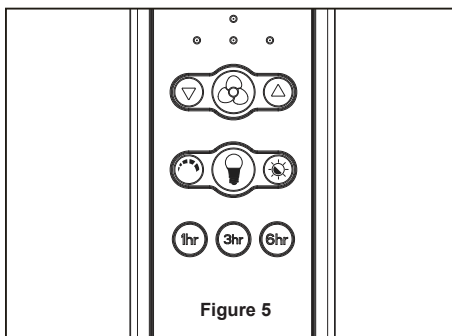

Figure 5
4. After connections have been made, the wires should be spread apart with the grounded conductor and the equipment-grounding conductor on one side of the outlet box and the ungrounded conductor on the other side of the outlet box, then turn leads upward and carefully push leads into the outlet box, with the white and green leads to one side of the box and the black leads to the other side. (Figure 5)
- ☐ 5. Assemble the LED assembly to the light kit using the removed screws from Step 3 and secure all three screws. (Figure 5)
5. Remote functions: (Figure 5)